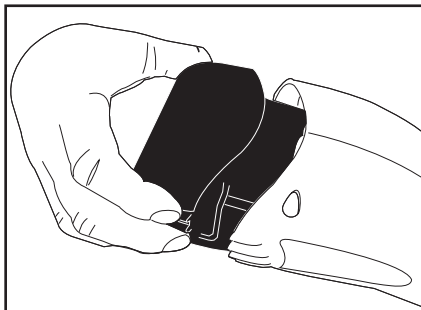

Figure 13
1. Depress the spring-loaded buttons on both sides of the battery simultaneously. (see figure 13)